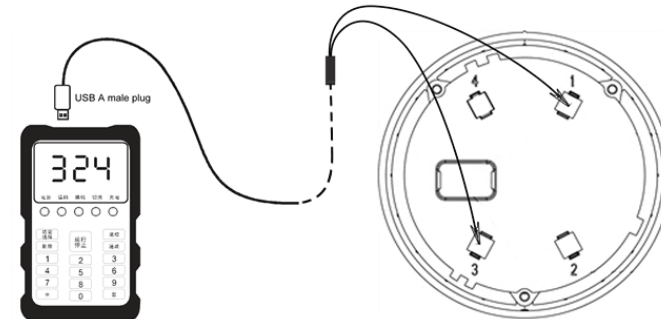

Fig.2
1. Wiring: See Fig.2. The sounder beacon is subject to a two-wire non-polarity connection: Terminals 1 and 3 are respectively connected with the terminals L1 and L2 of the loop bus of a compatible fire alarm control panel.
2. Coding address: The sounder beacon must be encoded address by a special coder(CODER-F900E) before the installation. Fig.2 shows the wiring diagram of the sounder beacon and coder. After wiring, press the “#”key to select “324” mode, set the coder with the coding function, then select the correct address number and press the “RUN/STOP” key to complete the address code setup. (Note: See the User’s Manual of the coder for the detailed operation.)